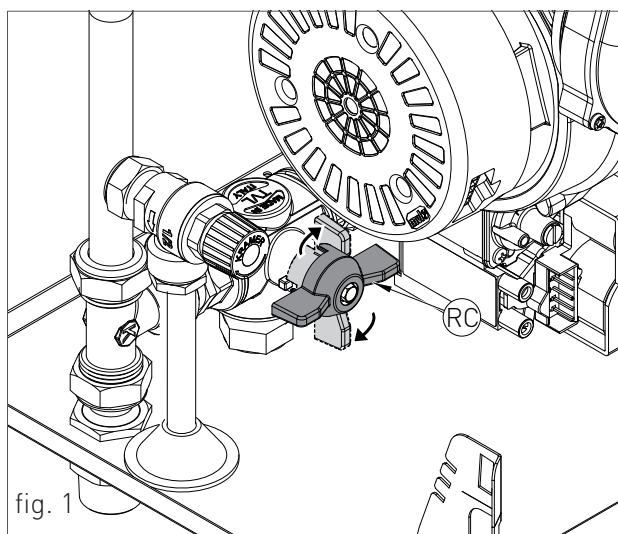

fig. 1
In order to allow the access inside the water heater for maintenance operations, you have to respect the minimum technical spaces indicated in figure 1.
Make sure, using a level, that the water heater is properly inclined being levelled (see fig.1) so as to allow the condense to drain.
- › turn the diverter valve onto the position “recirculation”, as shown ‘RC’ in figure 1.
- › Turn the three-way valve to the “recirculation” position, as shown in Figure 1 as ‘RC’.
Fill the condensate collection siphon as follows (see fig. 1):
- › With a glass pour the water in the heat exchanger's flue exhaust duct outlet (see fig. 1), up to fill the condensate trap to the highest point "T" (fig. 1);